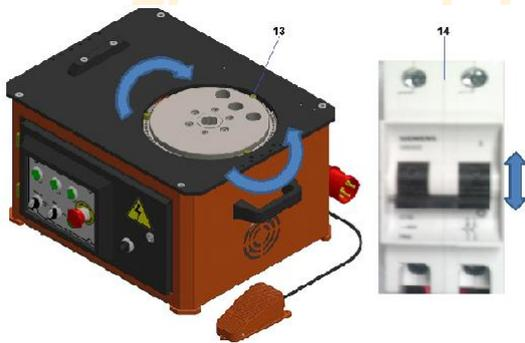

Figure 2: Determining the Direction of Rotation
- Machine should be leveled on a solid ground. **Figure 2**